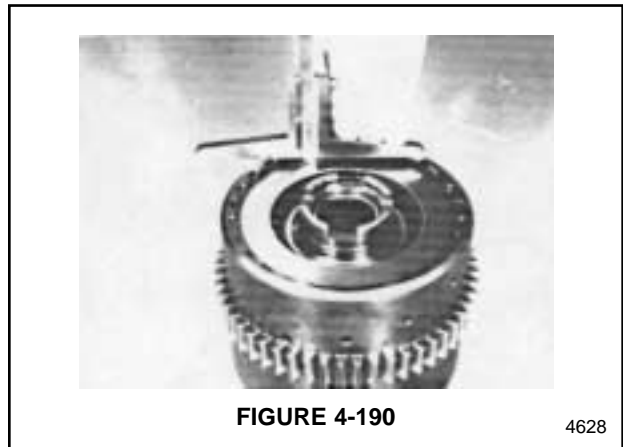

FIGURE 4-190
- Measure the distance from the top of the clutch carrier to the backing plate. See Figure 4-190. In the example shown, this measurement was 5.40 mm (.2125"). This is measurement A.